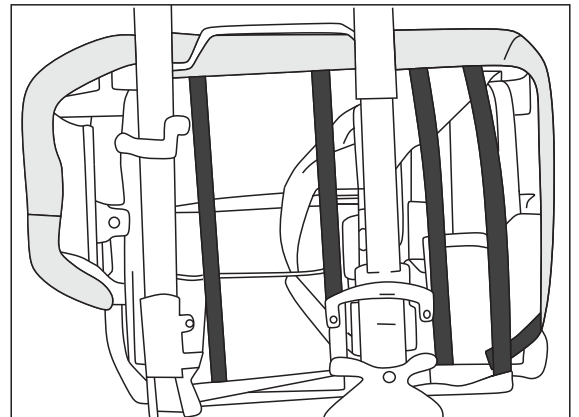

Fig. 14
14. Secure all corresponding hook and loop tapes under the seat, avoiding all mechanical levers and actuators. Also attach the hook tape on the back inside corner to the carpeted underside of the seat base. Check that the seat can freely slide back and forward. (Fig 14)